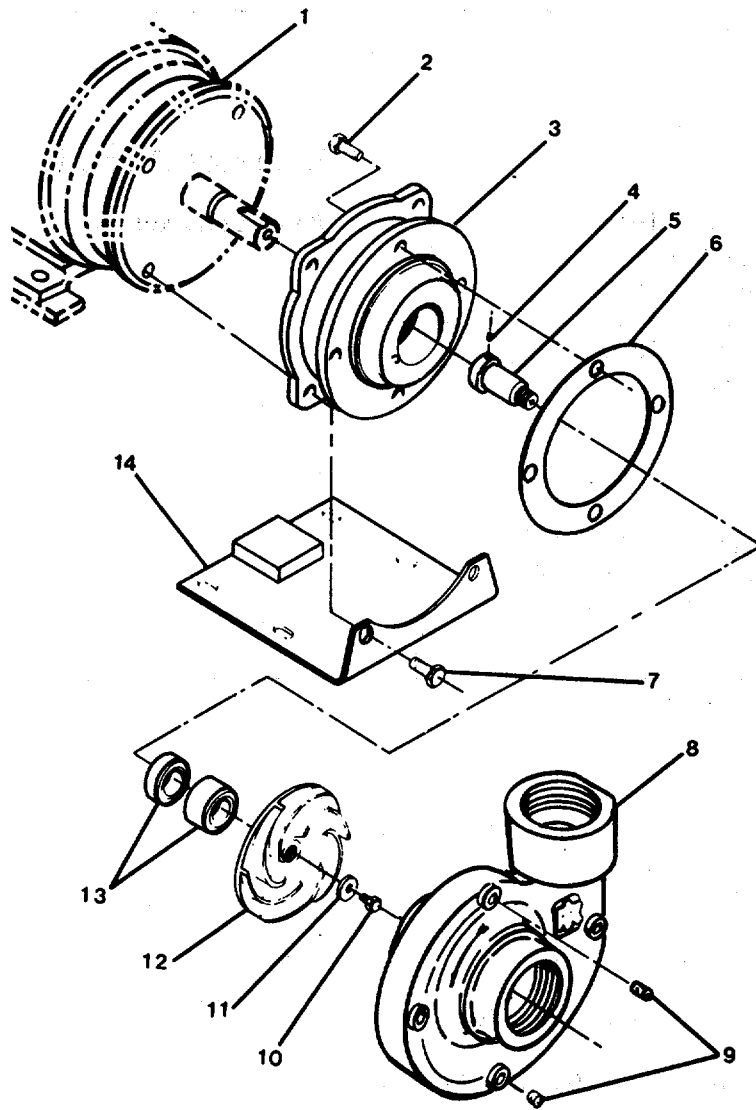

FIGURE 3-94. Centrifugal Pump Unit (Fresh Water Booster).
**3-110. REPAIR CENTRIFUGAL PUMP UNIT (FRESH WATER BOOSTER) (Figure 3-94).**